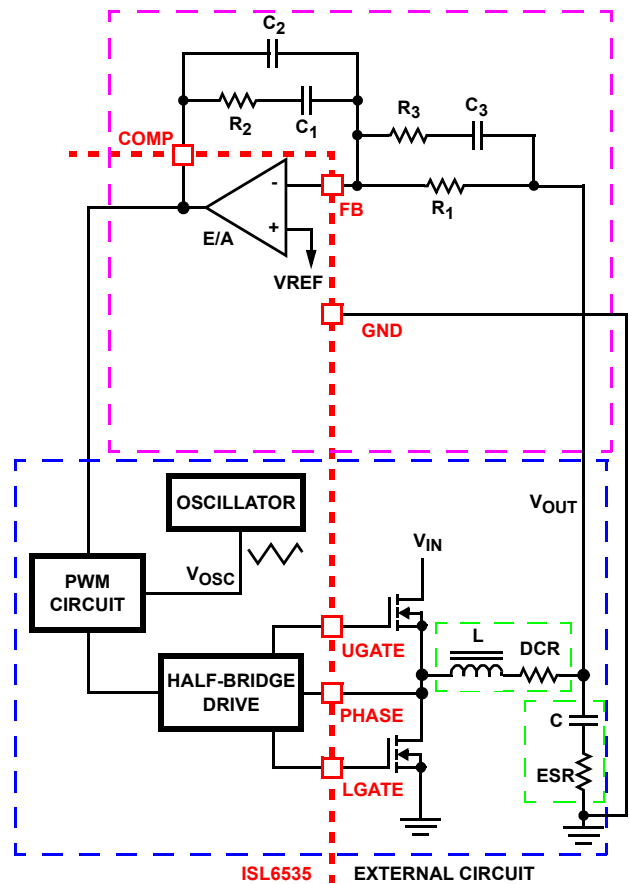

FIGURE 7. VOLTAGE-MODE BUCK CONVERTER COMPENSATION DESIGN
Figure 7 highlights the voltage-mode control loop for a synchronous-rectified buck converter. The output voltage is regulated to the reference voltage level. The error amplifier output is compared with the oscillator triangle wave to provide a pulse-width modulated wave with an amplitude of V_{IN} at the PHASE node. The PWM wave is smoothed by the output filter. The output filter capacitor bank's equivalent series resistance is represented by the series resistor ESR.
1. Select a value for R_1 (1k Ω to 10k Ω , typically). Calculate value for R_2 for desired converter bandwidth (F_0). If setting the output voltage to be equal to the reference set voltage as shown in Figure 7, the design procedure can be followed as presented. As the ISL6535 supports 100%